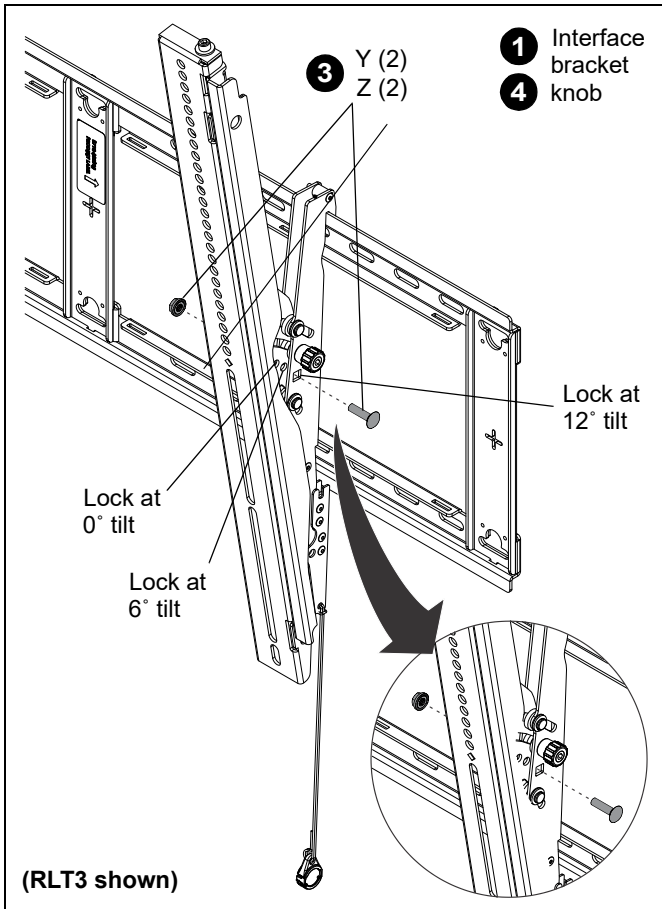

Figure 16
2. Adjust tilt as required. (See Figure 16)
3. The tilt may be locked at 0°, 6° or 12° using one 1/4"-20 x 1" bolt (Z) and one 1/4"-20 nut (Y) per interface bracket. (See Figure 16)